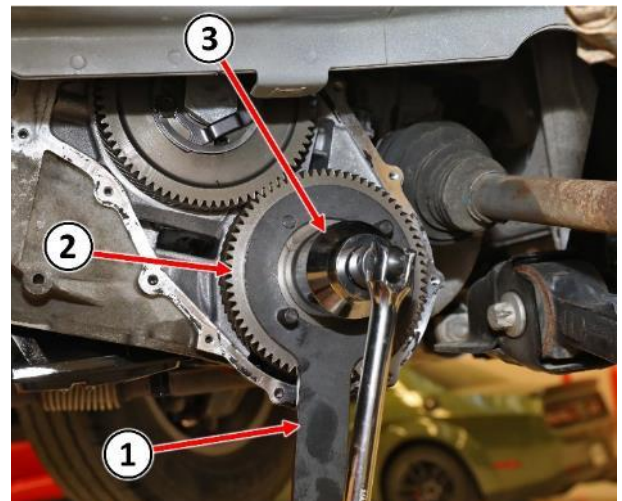

Figure 22 – Transfer Gear Nut
- 33. Install Holder 9739 (1) onto the transfer gear (underdrive compounder side) (2) (Figure 22).
- 34. Using a 50mm socket (3), remove the nut securing the transfer gear (underdrive compounder side) (2) (Figure 22).